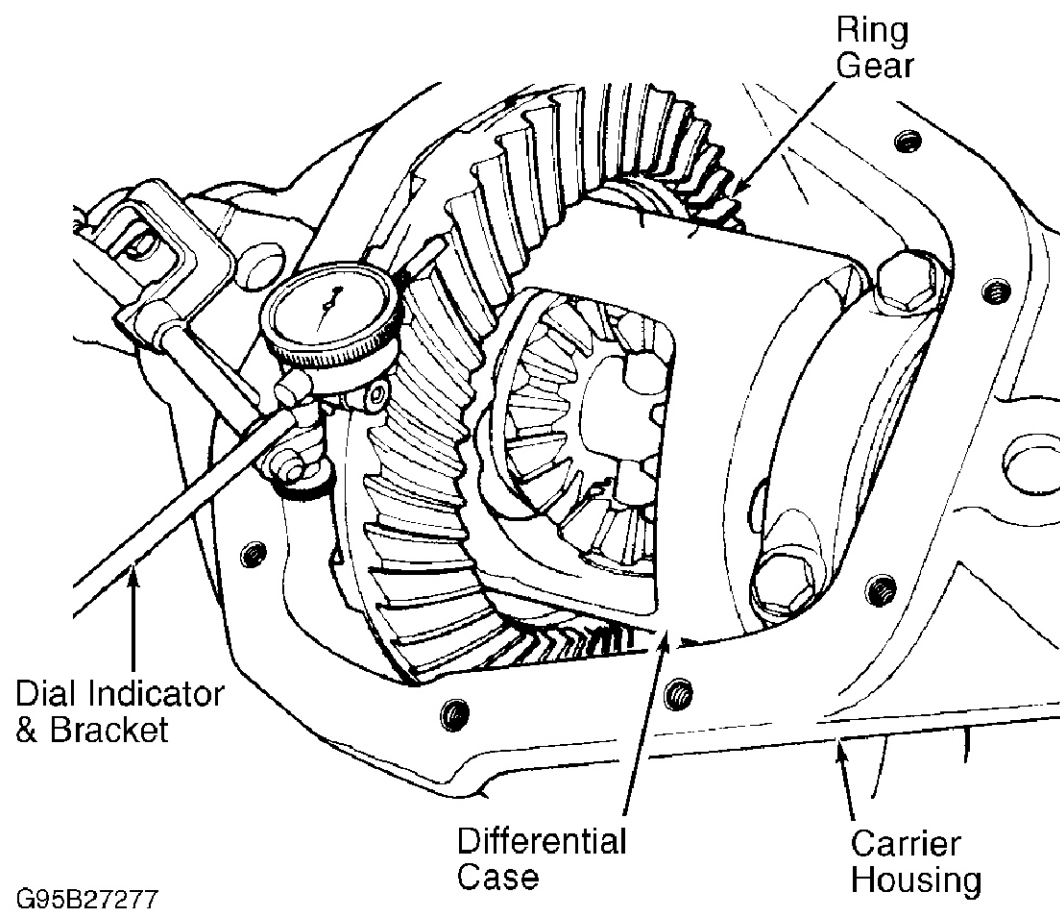

Fig. 9: Checking Ring Gear Backlash
1. Mount Dial Indicator (J-39704) onto drive axle housing. See **Fig. 9** . Place dial indicator tip at heel end of ring gear tooth. Check backlash at 3 equally spaced locations around ring gear.